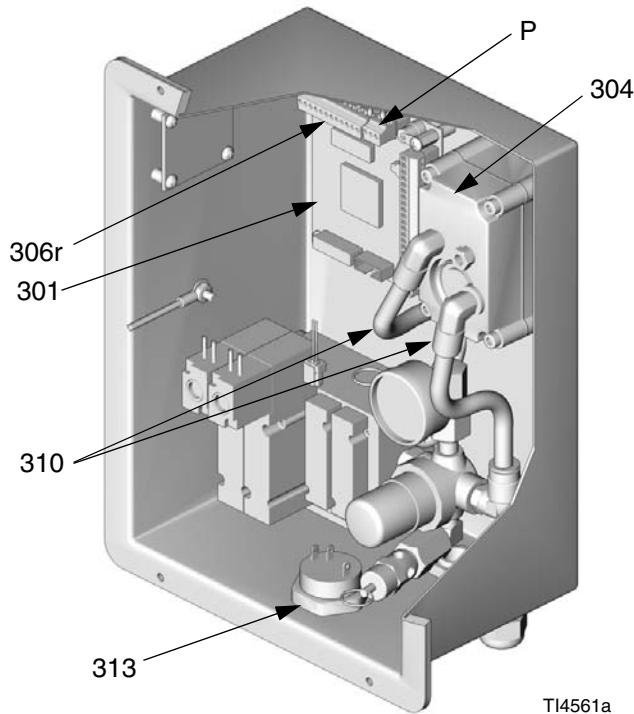

FIG. 5
2. Disconnect power supply wires (P). FIG. 5.